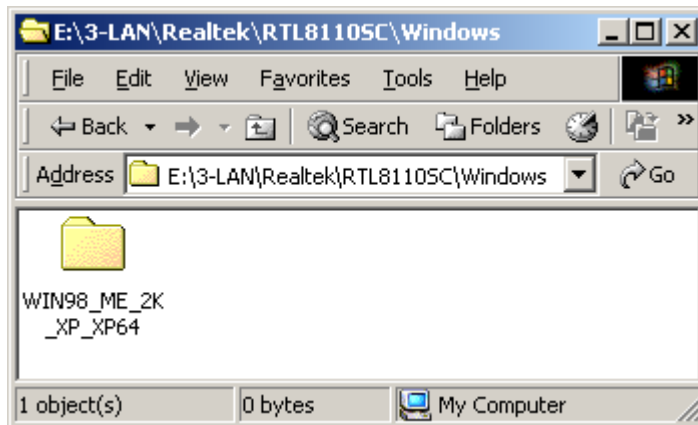

Figure 7-28: Windows Folder
Step 5: Double-click the appropriate OS folder and a new window opens (Figure 7-28).